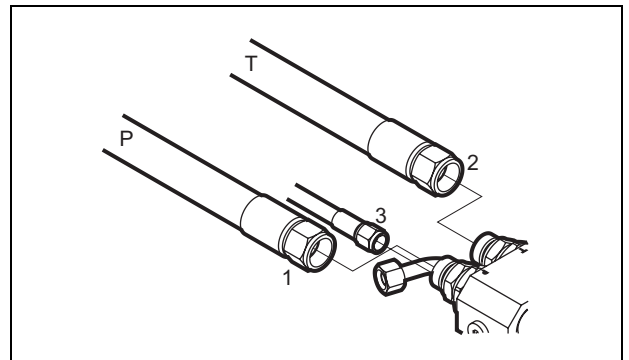

Fig. 21 Assemble the hydraulic hoses to the saw motor manifold
8. Assemble the hydraulic hoses to the saw motor manifold. *See Fig. 21.*